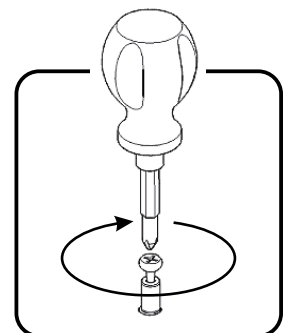

Figure 1
Insert Cam Lock Screws into pre-drilled holes in Top (A), Side Panels (B), (C), Bottom (D) and Plinths (H), then tighten. (See Figure 1)